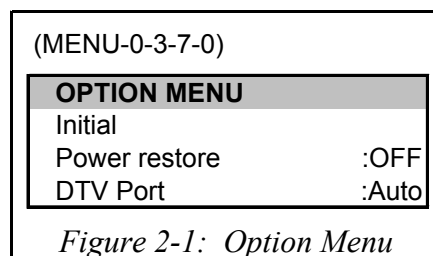

Figure 2-1: Option Menu
- 2) Press the number buttons "0", "3", "7", "0" in sequence to select the "OPTION MENU" display. See *Figure 2-1*.